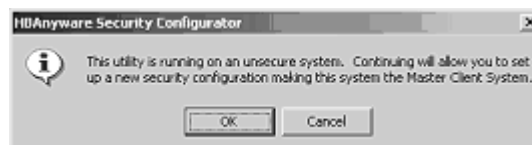

Figure 46: HBAnyware Security Configurator "Unsecure System" message
1. Start the HBAware Security Configurator for the first time in an unsecured environment. The computer from which you run the Configurator becomes the MSC. The “Unsecured System” message appears (see Figure 46).